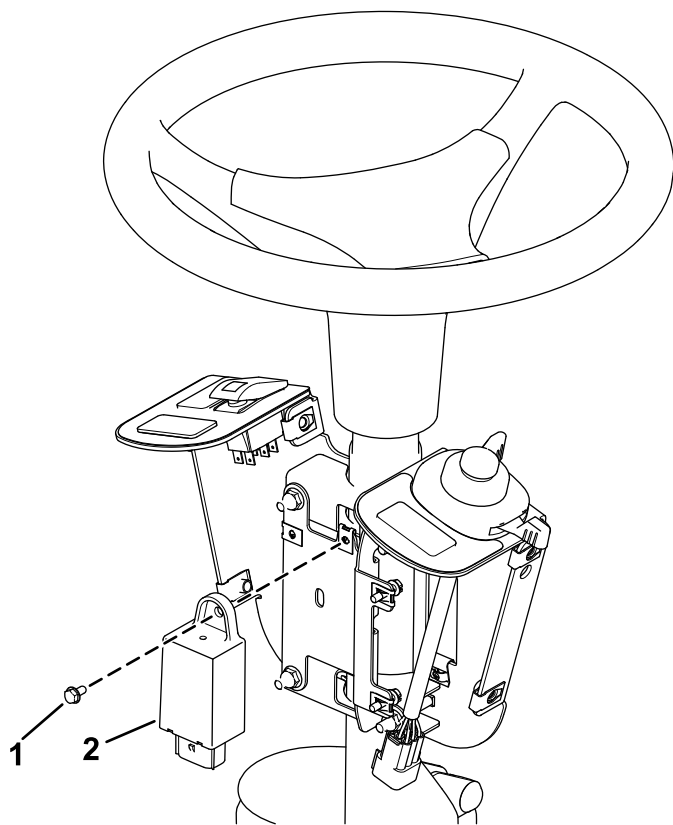

**Figure 5**
3. Install the rocker switch and hole plugs into the switch mount (Figure 5).